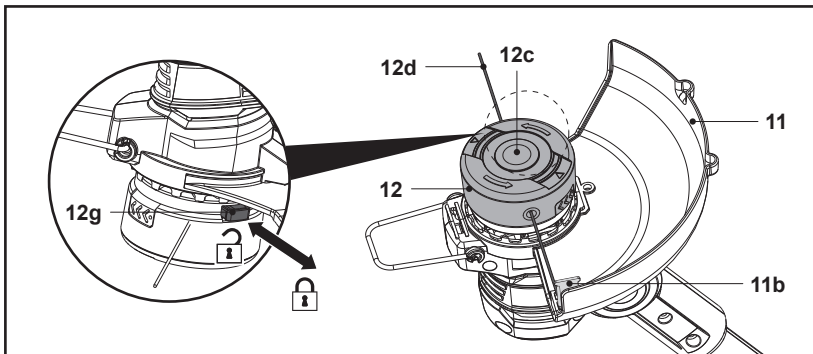

Fig. 22
1. Turn trimmer head (12) upside down.
2. Press the release push button (12g) while pulling on the trimming line (12d). The trimming spool (12c) will release the trimming line (Fig. 22).
4. Attach the battery pack and use the product as described. Excess line will be cut by the knife (11b) and should always remain inside the radius of the guard (11).